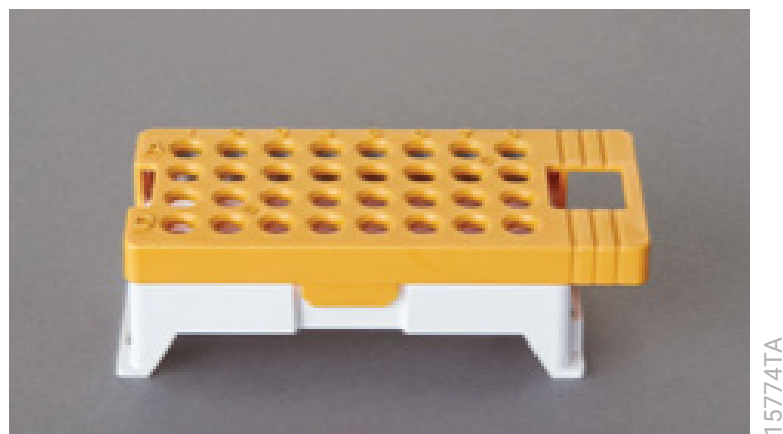

Figure 44. Assembled Spectrum Compact Sample Cartridge.
- To complete the assembly, place the retainer over the strip in the strip base, aligning the lane names A to D and well numbers 1 to 8 on the retainer to those on the strip base and pressing until the retainer clicks into the strip base (Figure 44).